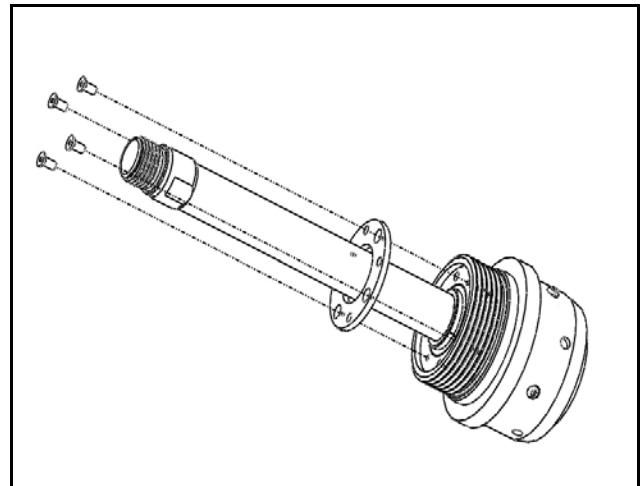

Figure 10 – Slide Bearing Retainer
4. Remove the four (4) screws holding the Slide Bearing Retainer to the Impactor Assembly Retaining Nut (see Figure 10). Remove the Slide Bearing Retainer.
Figure 10). Start all four screws before tightening them down in any order. The first screws tightened may loosen as others are tightened. Go around and retighten all four screws several times until they remain tight.